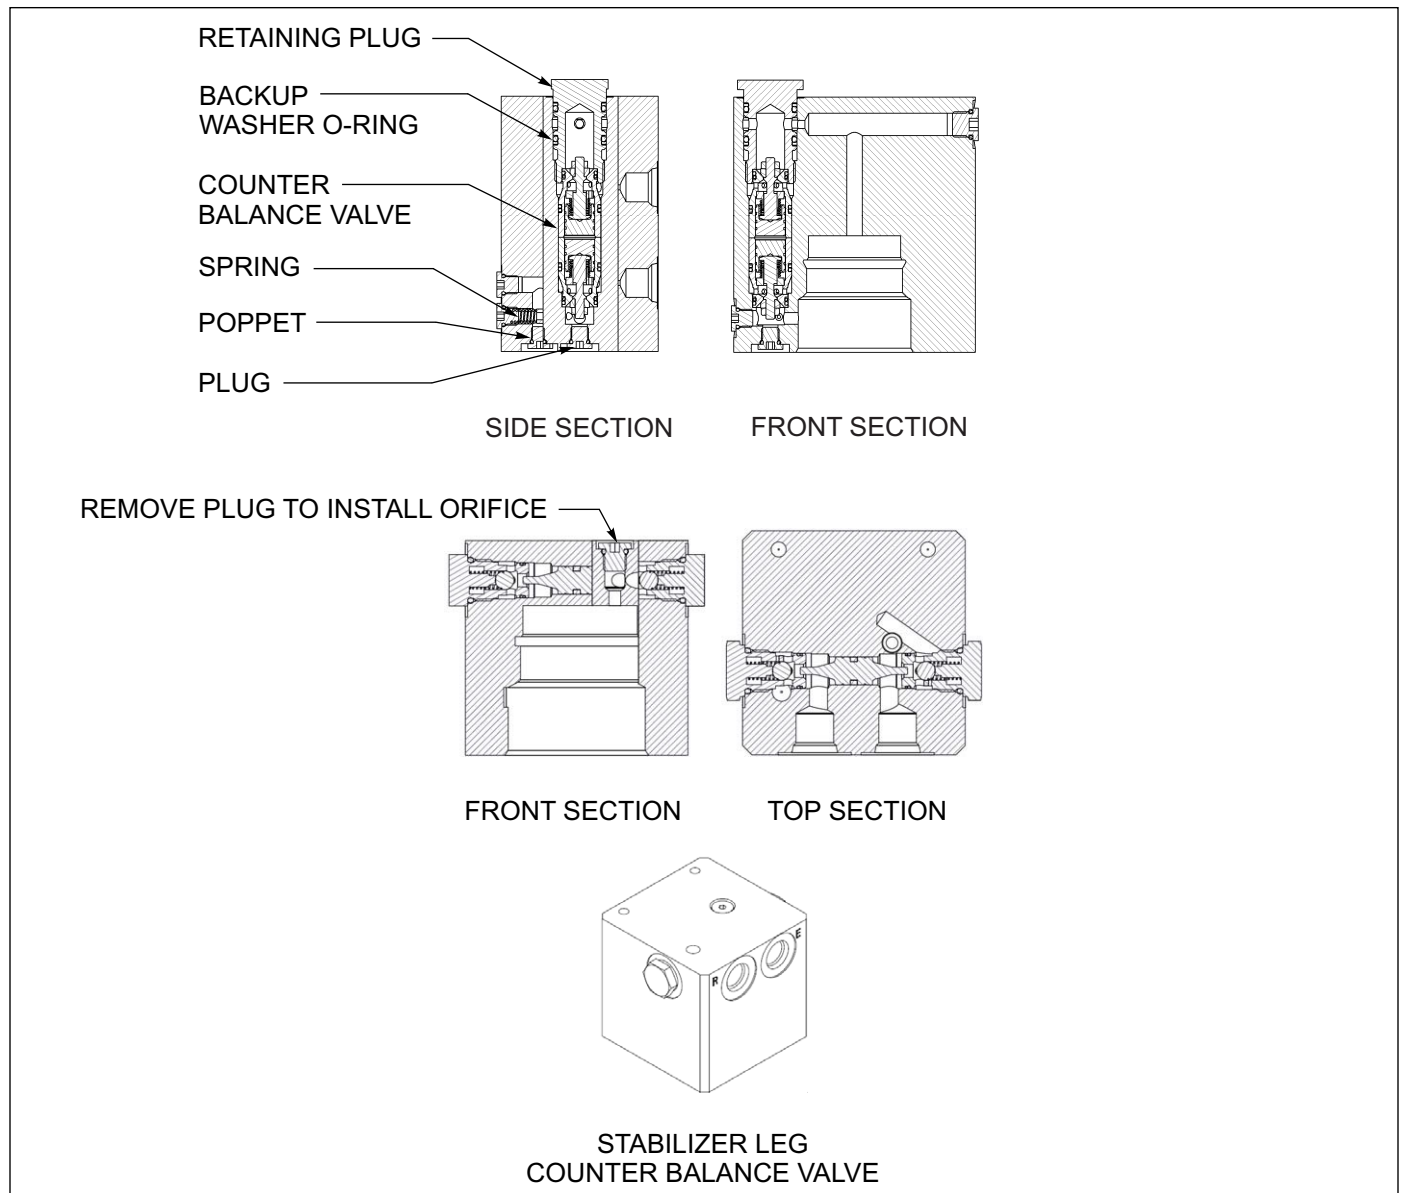

Figure 4-21: Stabilizer Leg Counter Balance Assembly
2. Remove retaining plug (See Figure 4-21.)